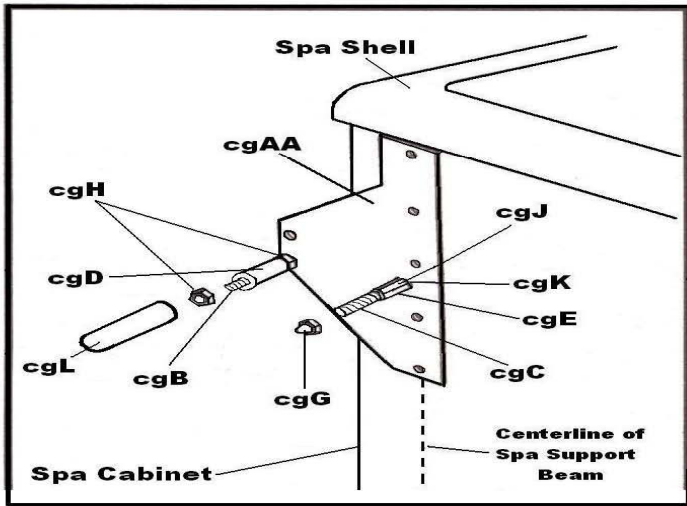
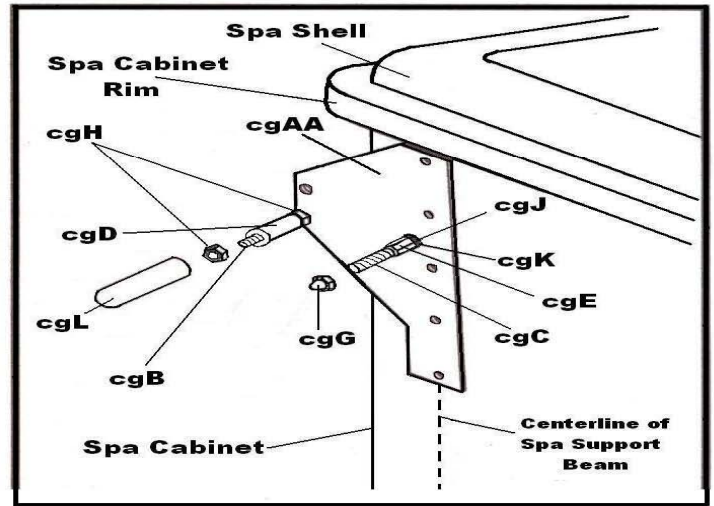

Fig. 1 Bracket Long Side Up Example
Fig. 2 Bracket Short Side Up Example
2. Determine if your spa's shell folds over the side of the spa (fig. 1 Bracket long side up installation) or if your spa shell rests on the spa cabinet (Fig. 2 Bracket Short Side Up Example).